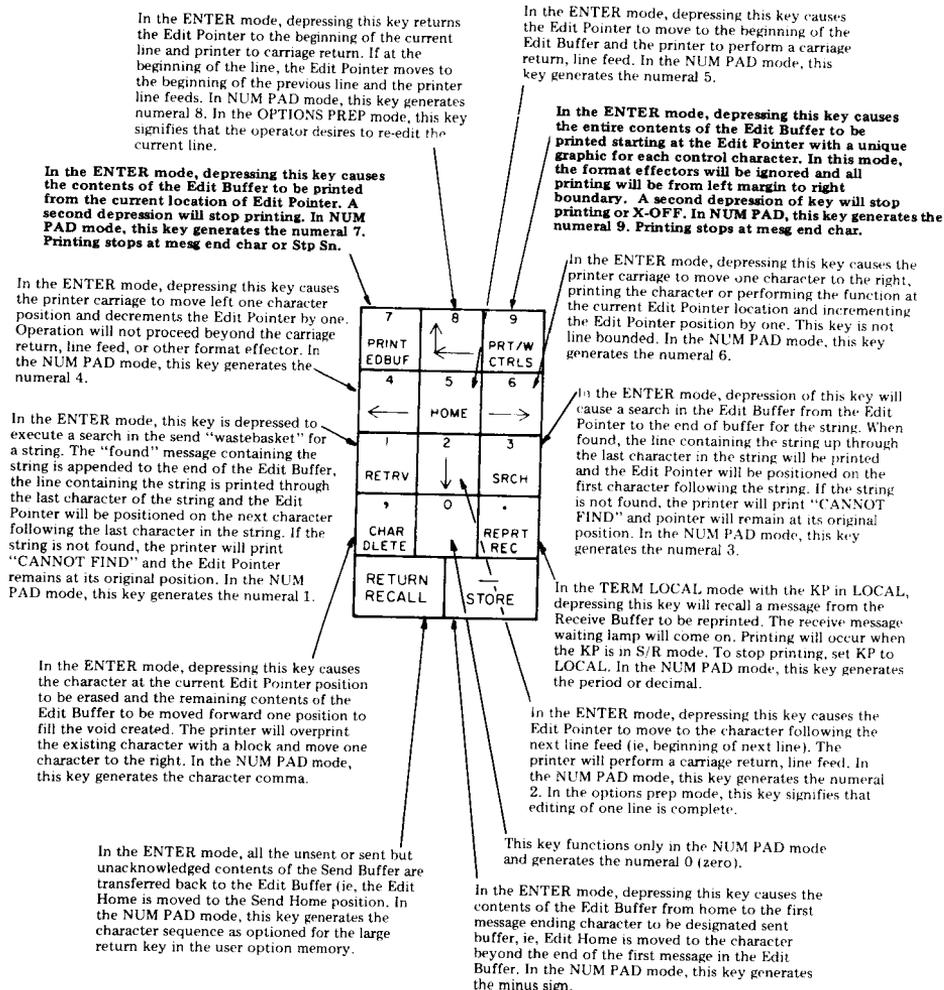

Fig. 5—Numeric/Edit Pad
2.12 The functions of the numeric/edit pad are briefly described in Fig. 5.